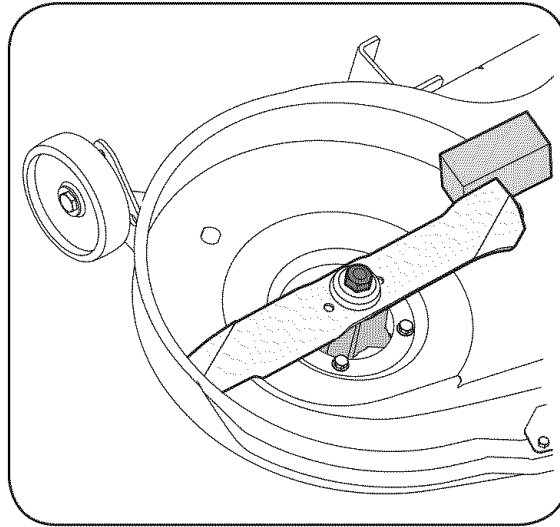

Figure 6-5
2. Place a block of wood between the center deck housing baffle and the cutting blade to act as a stabilizer. See Fig. 6-5.
3. Remove the hex flange nut that secures the blade to the spindle assembly. See Fig. 6-5.